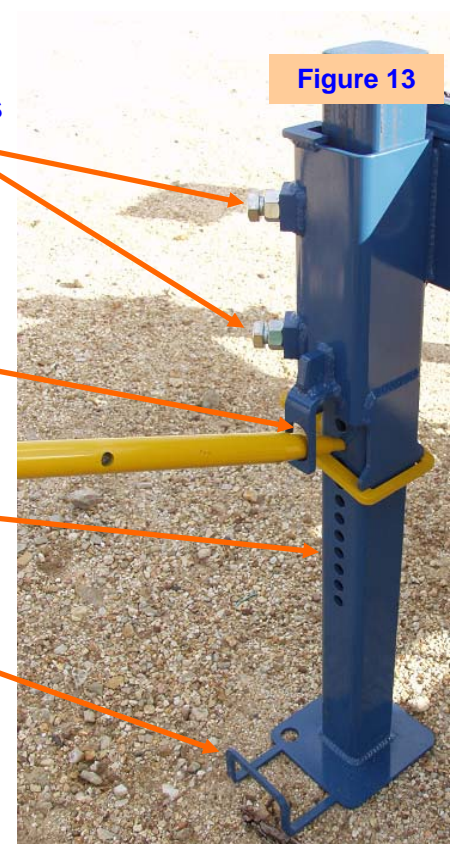

Figure 13
- ☐ Use a 1-1/8" wrench to loosen the two jamb nuts and bolts on each leveling leg (see **Figure 13**).